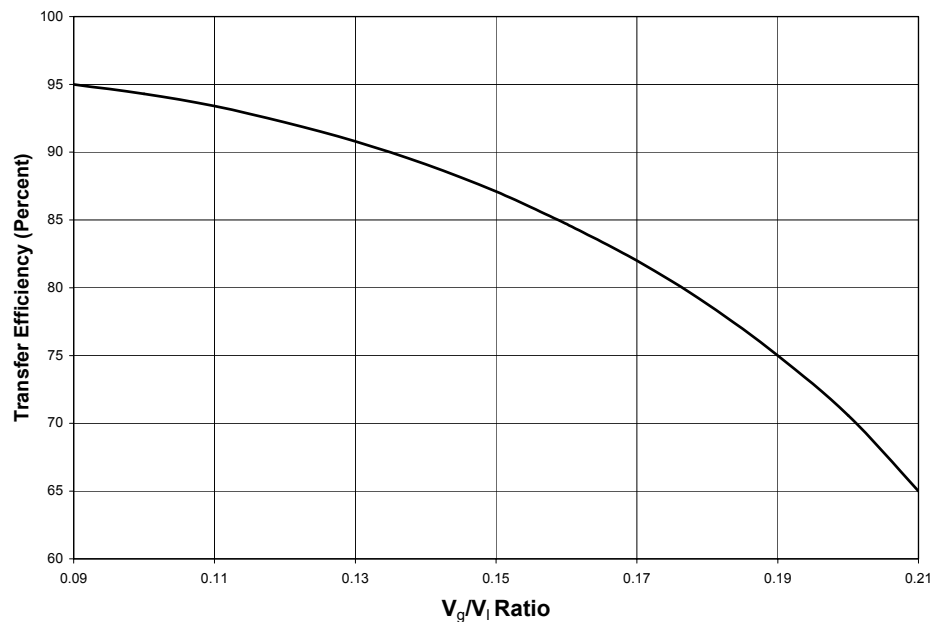

Figure A.1 – Side Stream System Transfer Efficiency (duplicate)
SSI-4 Identify the **actual transfer efficiency** using the calculated V_g/V_l ratio and Figure A.1.
- Using Figure A.1, find V_g/V_l ratio amount on the horizontal axis and move vertically until curve intersection.